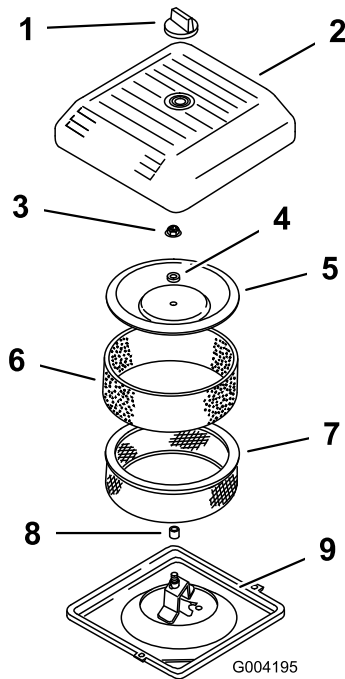

Figure 44
3. Unscrew the knob and remove the air-cleaner cover (Figure 44).
4. Carefully slide the foam pre-filter off of the paper element (Figure 44).
5. Unscrew the cover nut and remove the cover, spacer, and paper filter (Figure 44).
- Place the air cleaner assembly onto the air cleaner base (Figure 44).
- Install the cover, spacer and secure it with the cover nut (Figure 44). Torque the nut to 11 N·m (95 in-lb).
- Install the air cleaner cover and secure with the knob (Figure 44).